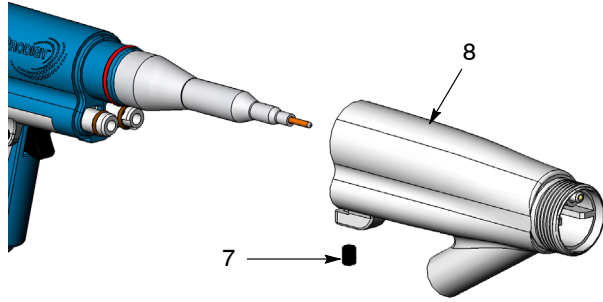

Figure 3 Removing the Adapter
2. See Figure 3. Remove the set screw (7) from the underside of the spray gun adapter (8).